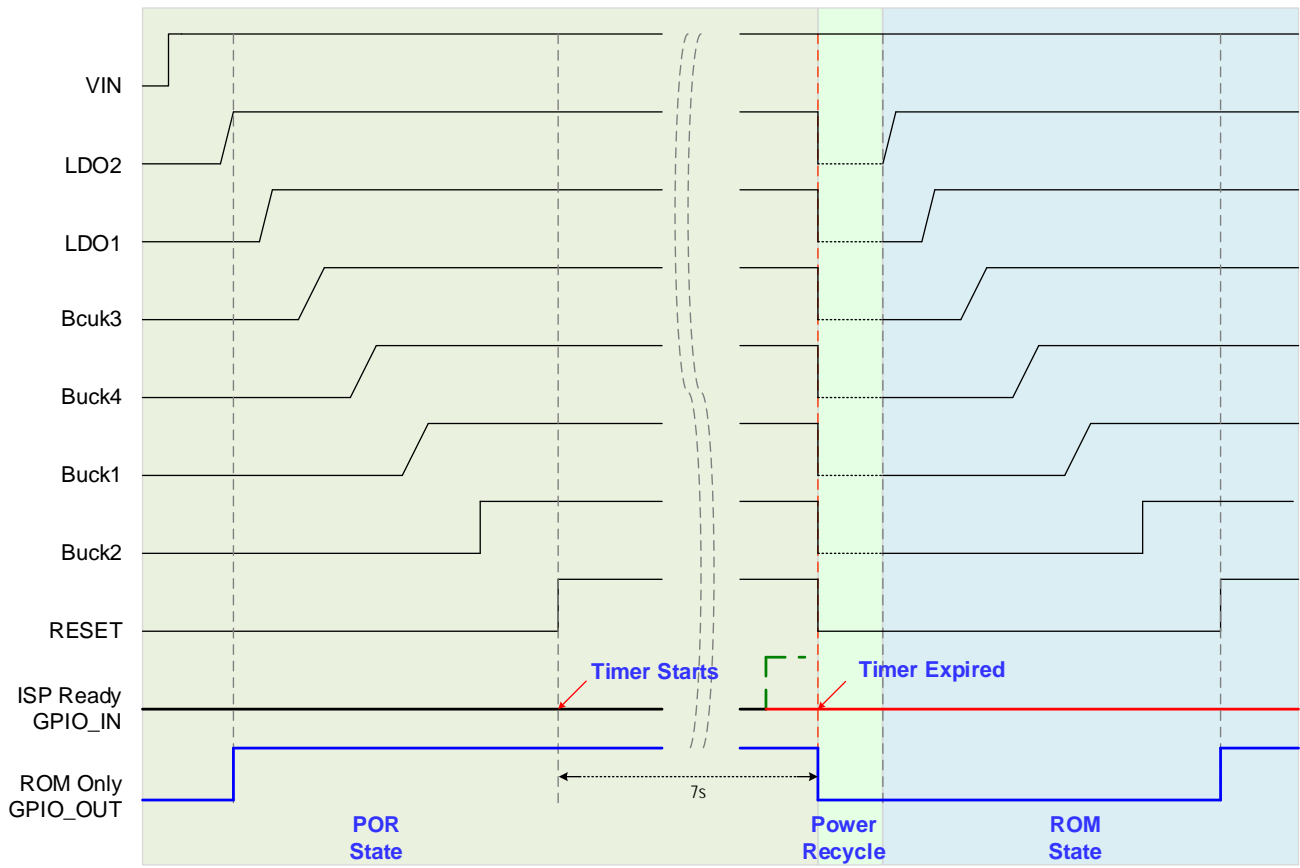

Figure 8: Enter ROM Mode Through GPIO
**Figure 8** shows how ROM Mode is implemented. One GPIO is configured as the input for the ISP Ready signal, which is an output from the SSD core after the system powers up. Another GPIO is configured as output for the ROM state signal. After the ACT88420 startup sequence completes, the ACT88420 deasserts its nRESET output and an internal watchdog timer starts monitoring the ISP Ready input signal (active high) to make sure system powers up successfully. If the ISP Ready input is not asserted within 7s (configurable to 7s or 20s), the ACT88420 starts the ROM mode. It turns off all regulator outputs, asserts nRESET low, and asserts the ROM\_Only signal low. After a 200ms delay, the ACT88420 restarts the power up sequence. The ROM\_Only output stays asserted low until nRESET is de-asserted high to make sure the SSD core stays in the ROM state when powered up.